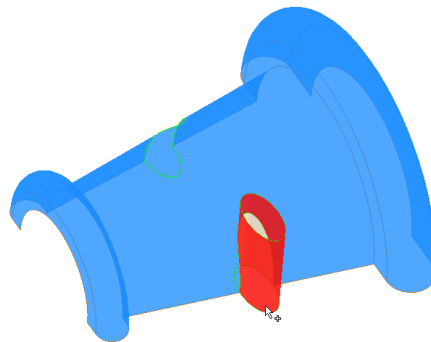

Figure 18-58 *Trimming the other extruded surface*
- e. Delete faces using the **Delete Face** tool, refer to Figure 18-58.
5. Trim the other extruded elliptical surface using the base surface as the trim tool. Note that you need to select the outer portion of the extruded surface to trim, as shown in Figure 18-58.